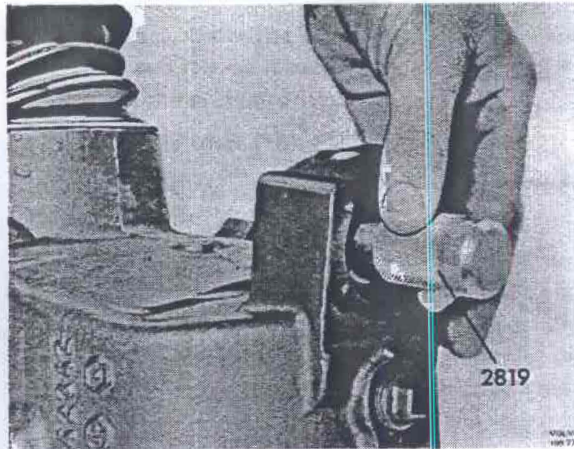

Fig. 63-9. Fitting the lower bushing
1. Knock the new bushings into the wheel carrier. The upper bushing is carefully tapped in with a plastic mallet. The lower one is driven in with drift 2819 and a plastic mallet, see Fig. 63-9. Take care that the bushings are driven in properly all the way.